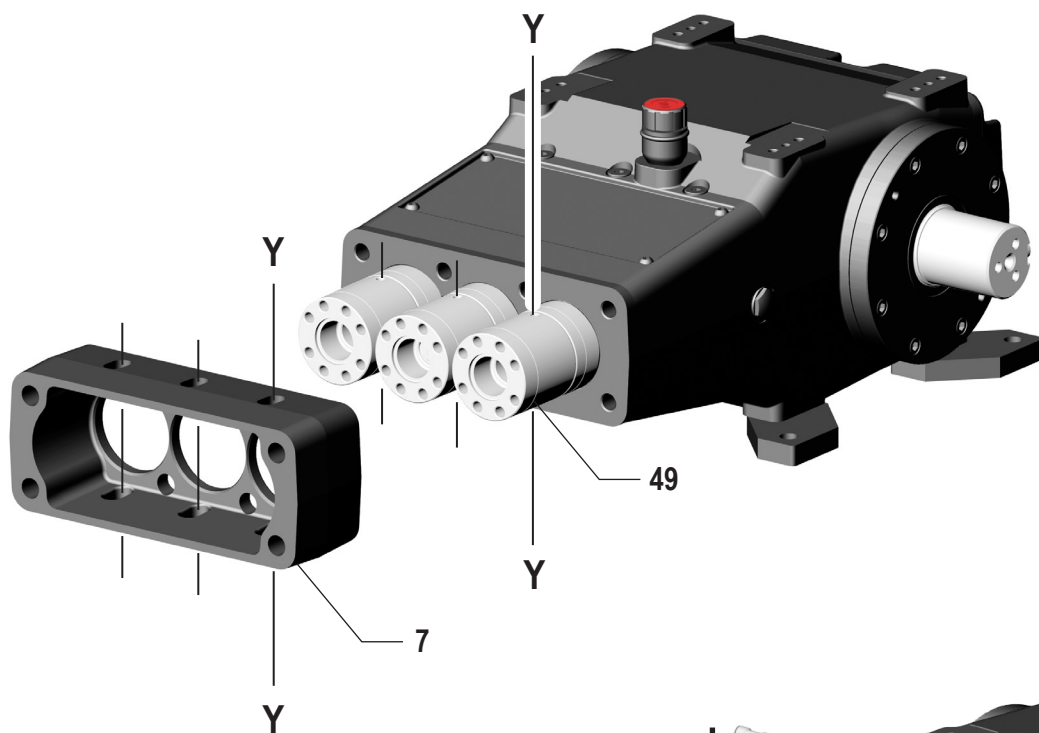

Fig. 27
IMPORTANT: Before refitting the head (item 2 - Fig. 28) make the Y-axis of the holes in the front liners vertical (item 49 - Fig. 27).